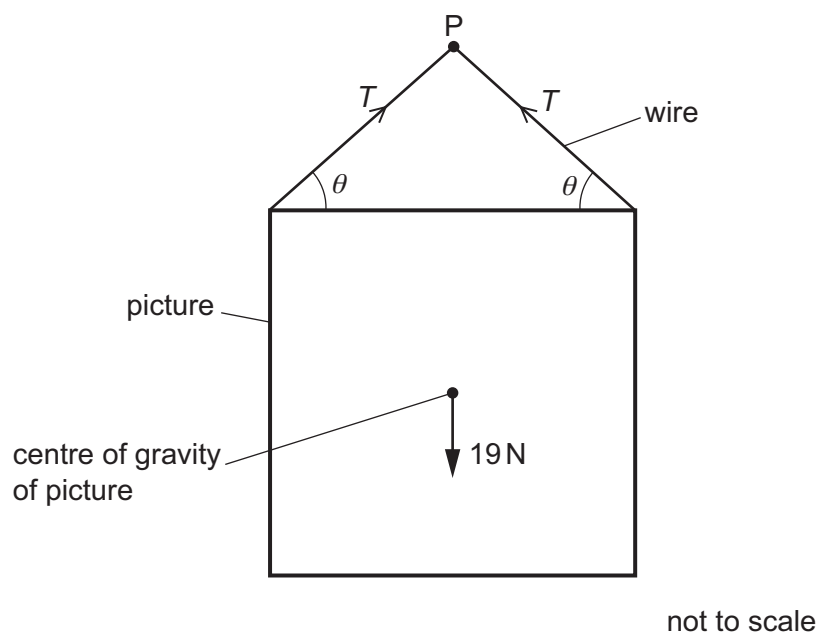

Figure 4.1
- 4** A uniform square picture is attached to a wire and hangs in equilibrium from a pin at point P, as shown in Figure 4.1.